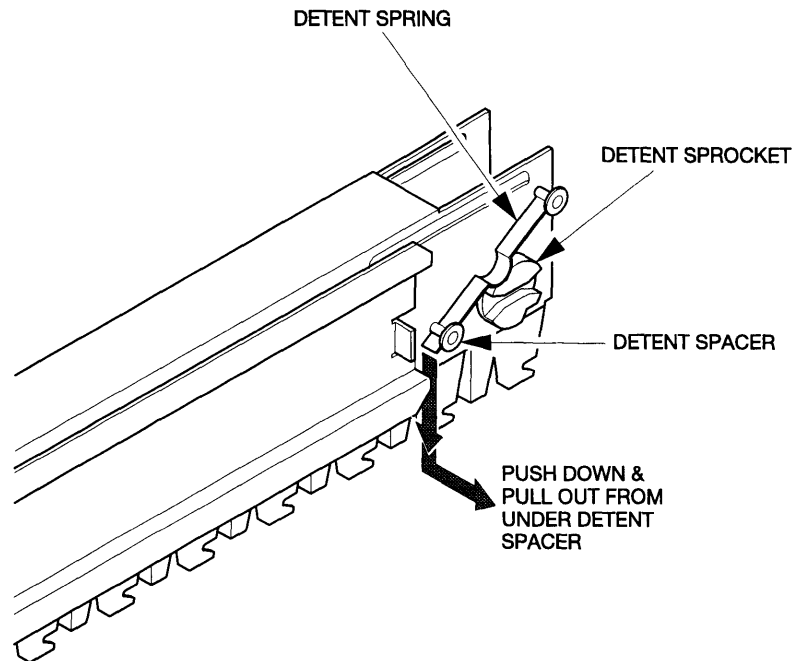

Figure 6
6. pulling it out from under the detent spacer (figure 6).